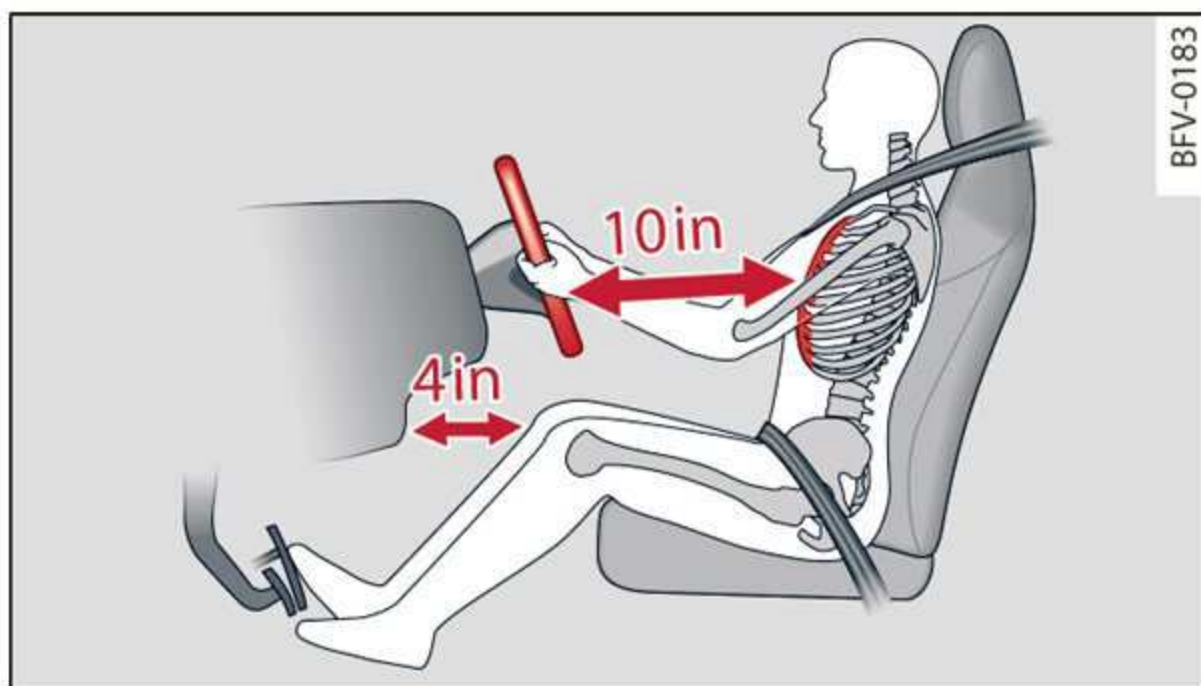

Fig. 145 Correct seating position
- ▶ Adjust the steering wheel so that there is a distance of at least 10 in (25 cm) between the steering wheel and your breast bone ⇒ *fig. 145*. If not possible, see your authorized Audi dealership about adaptive equipment.